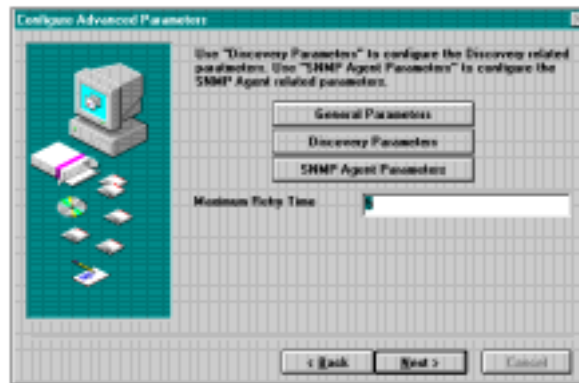

Figure 8-2. Configuring Advanced Parameters
- In the "Configure Advanced Parameters" menu (Figure 8-2), configure the following: